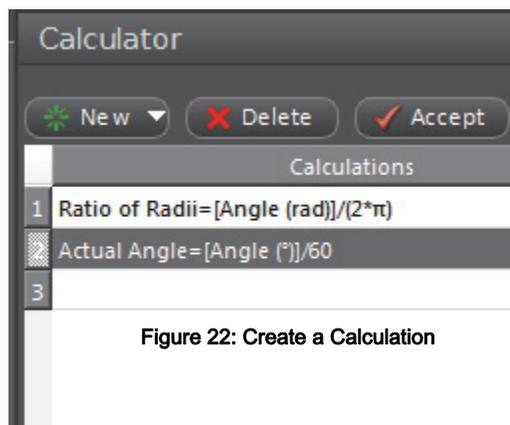

Figure 22: Create a Calculation
- Use the Calculator in the program to create a calculation of the actual angular position of the Degree Plate. If the small post on the top of the Pinion is in contact with the edge of the Degree Plate, the Angular Position of the Rotary Motion Sensor must be divided by the ratio of the radius of the Degree Plate and the radius of the small post on the Pinion*. The ratio is approximately 60 to 1. If the Ratio of Radii you determined was not 60, use the value you found. If the larger diameter section at the bottom of the Pinion is used, the Angular Position of the Rotary Motion Sensor must be divided by 15* (see Fig. 22 for an example from Capstone).